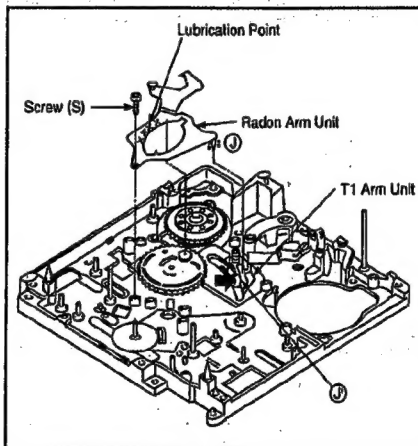

Fig. M26
13. S1 Arm Fig. M26 After install the Cylinder Base Unit, S and T Boat move to completed loading position by finger and turn the Mode Gear to clockwise until half loading position.